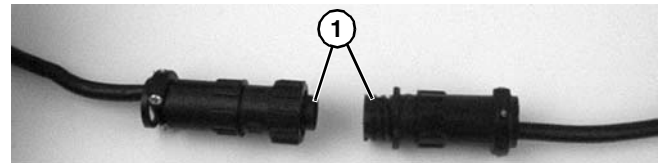

Figure 20
1. For DC variable speed motor, unplug motor cord at disconnect (Figure 20, item 1).